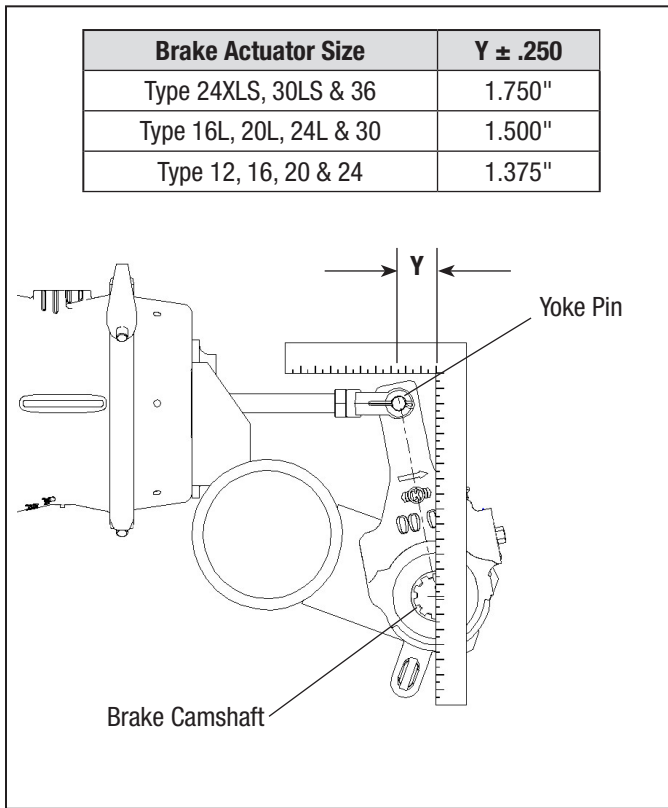

Figure 7 – Threaded Clevis
The illustration in Figure 7 depicts a properly installed Bendix® Versajust® GS™ slack adjuster when paired to an actuator with a threaded clevis and pushrod.
4. To determine where the pushrod is to be cut, find the distance as specified in Table 2 Column IV: Set-Up Cut Length (which is the same as "Y" in Figure 7) Measure from Mark "B" toward the actuator mounting surface to find the cut line. Mark and cut the pushrod at this point.